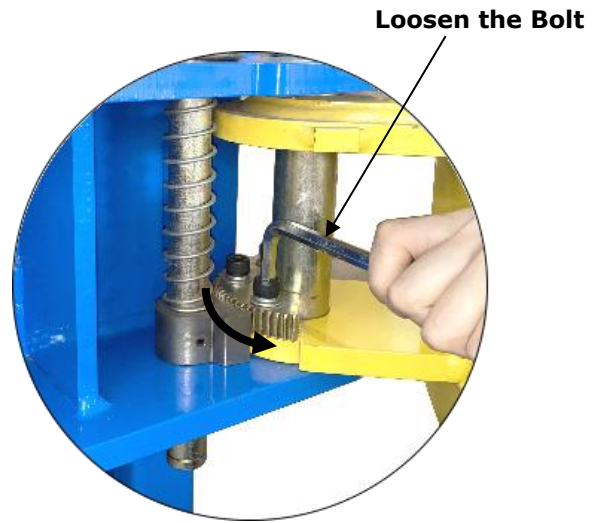

Fig. 37
2. Lowering the carriages down to the lowest position, then use the 8# socket head wrench to loosen the socket bolt (See Fig. 37).